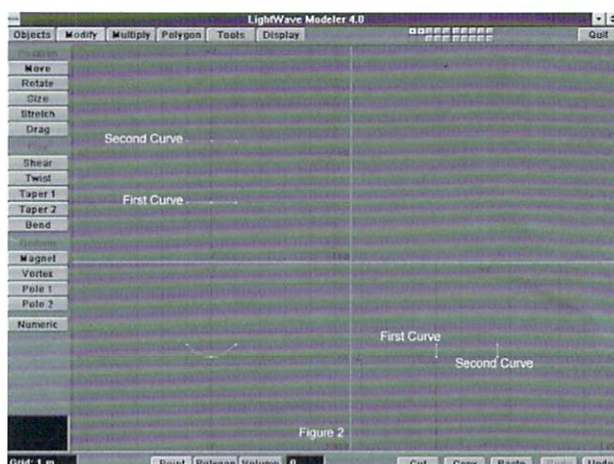

Figure 2
- Move the curve in layer 2 to the next key spline cross section (Figure 2).